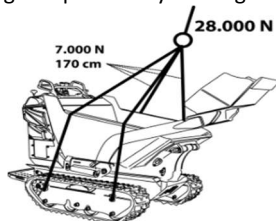

fig. 2.7 – Lifting Attachment Points
- Attach the lifting equipment exclusively to the anchorage points specified by the manufacturer (see fig. 2.7);